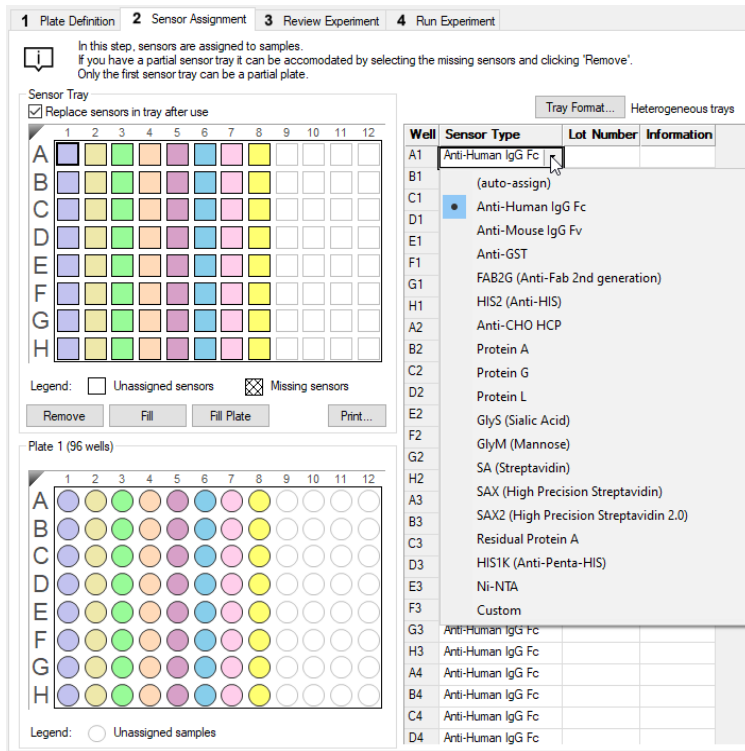

Figure 6-37: Populating the Sensor Tray Map with First Biosensor Type
3. Select **all** columns with default biosensor assignments in the **Sensor Tray Map**, right-click and select the first biosensor type to be used (see Figure 6-37).